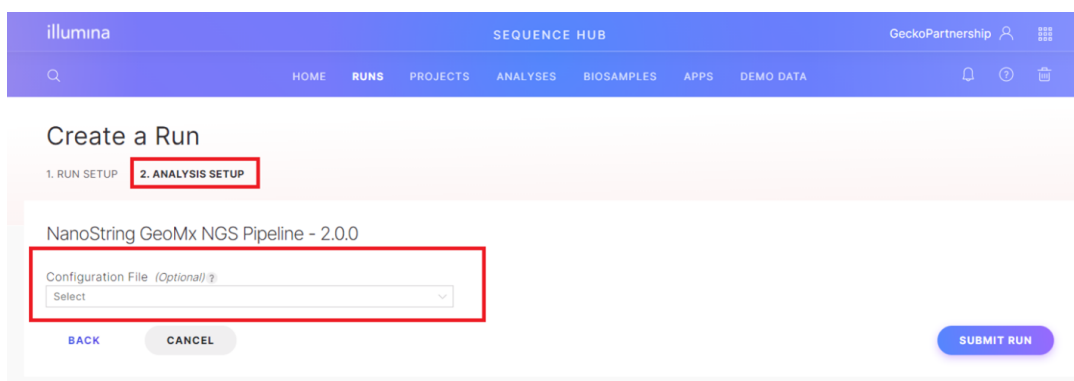

Figure 21: Upload configuration (.ini) file
7. Under tab 2. Analysis Setup, upload the **GeoMx configuration (.ini)** file from the GeoMx DSP readout package (Figure 21).